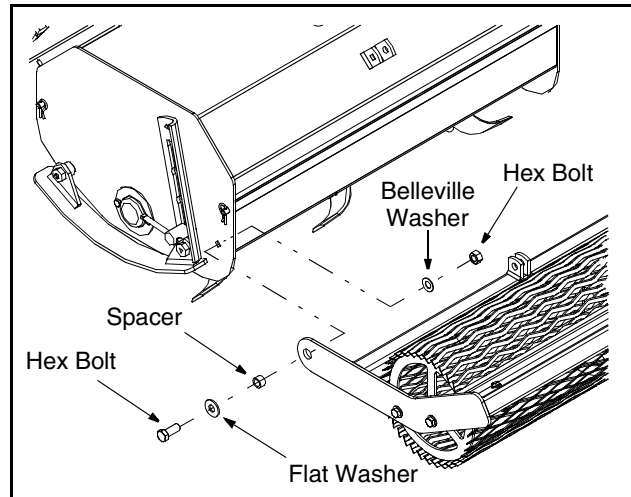

Figure 3
- Using this hardware, fasten the left side bracket of the roller assembly to the left side of the tiller housing as shown in Figure 3.